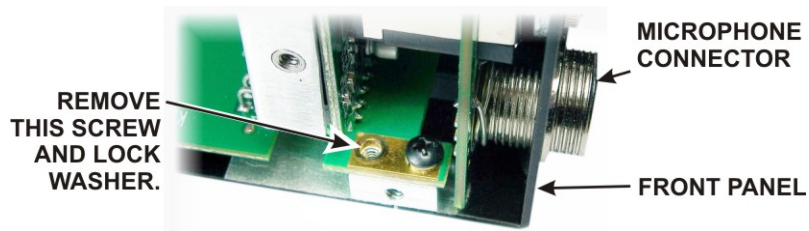

Figure 3. Removing the 2D Screw.
- Remove the screw and lock washer shown in Figure 3. It is located directly behind the front panel microphone connector. This will ensure the pc boards on the front panel assembly will have adequate clearance when the front panel assembly is removed in a later step. Remove only the screw shown. Leave the other screw in place as shown in the figure.
- Replace the 3/6" (4.8 mm) black pan head screw and split lock washer in the 2D fastener (see Figure 3).